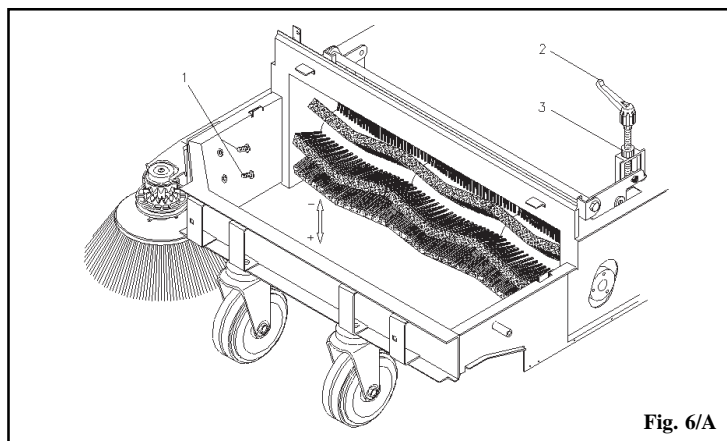

Fig. 6/A
To adjust the main brush, remove the top bonnet, slacken the lock nut **pos. 3 Fig. 6/A** and turn adjusting handle **pos. 2 Fig. 6/B** in the direction required (clockwise to increase pressure). By pulling up the handle, the brush will turn idle. This will allow you to position the brush in a place where it will not prevent the top bonnet from closing.
Adjusting versions 505ET (Fig. 6/B)